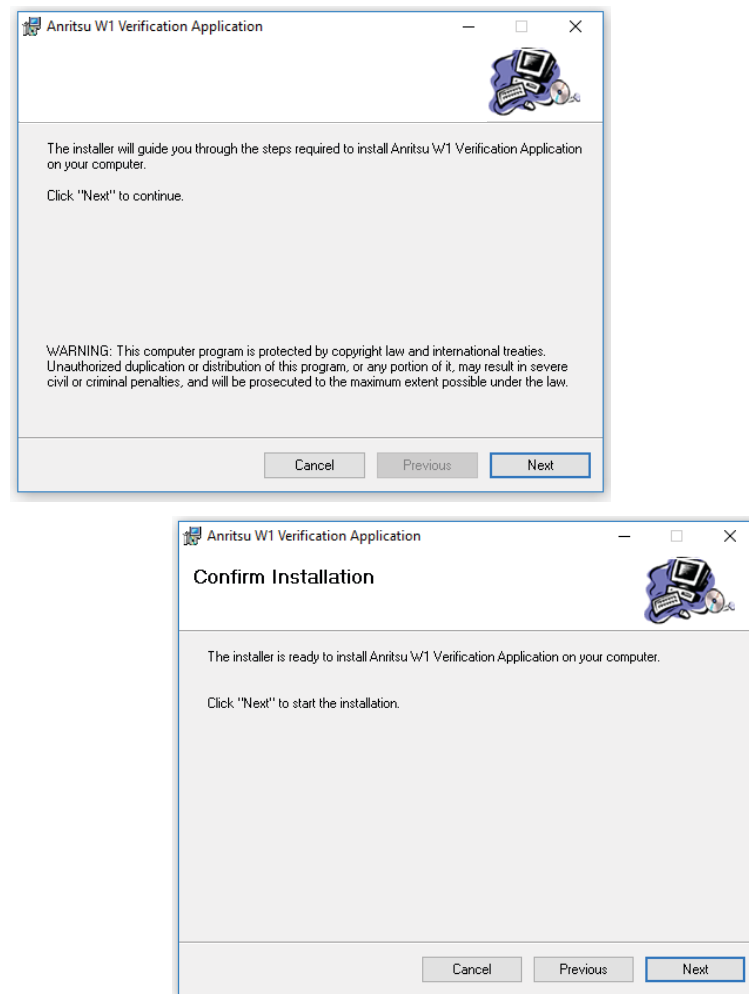

Figure 3-2. Installation Confirmation and Progress Dialog Boxes – Click Next on each
6. Click Run on the two security dialog boxes (Figure 3-2 on page 3-3).